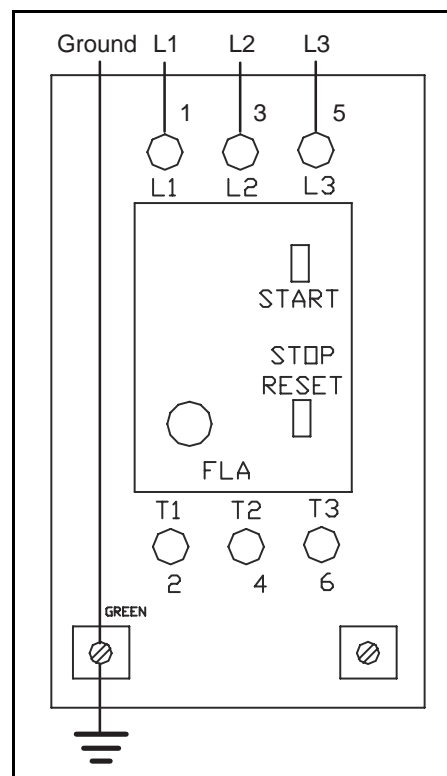

Figure 19
2. Insert line cord through grip (AM) and tighten nut.
3. For correct three-phase motor shaft rotation, connect line phase sequence L1, L2 & L3 to terminals as shown (Figure 19).
The motor ground wire is also attached to left terminal marked \perp (Figure 19).
4. Attach ground wire to lower left terminal marked \perp (see Figure 19).